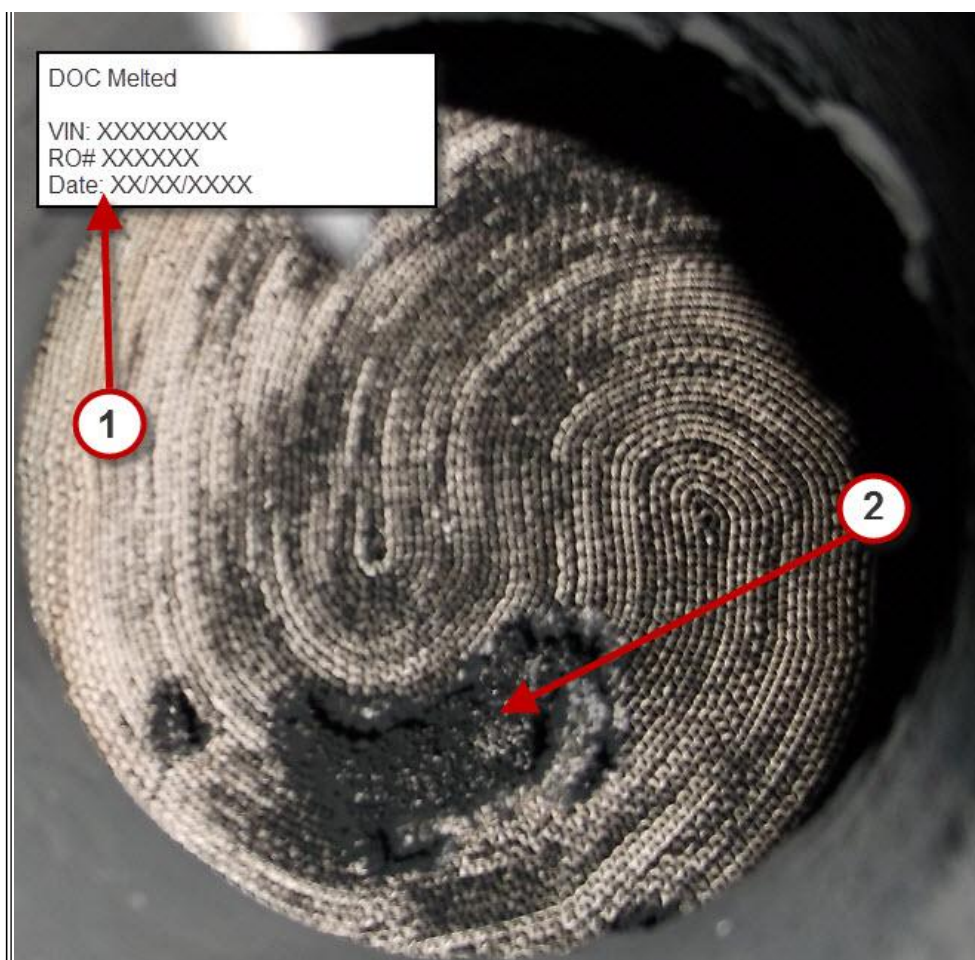

Figure 11: Melted DOC
3. A detailed explanation of what the root cause of failure was if applicable should be included as shown in figures 11 and 12 below, however if unable to determine the root cause ensure unit meets all performance specifications per its diagnostic manual before releasing.